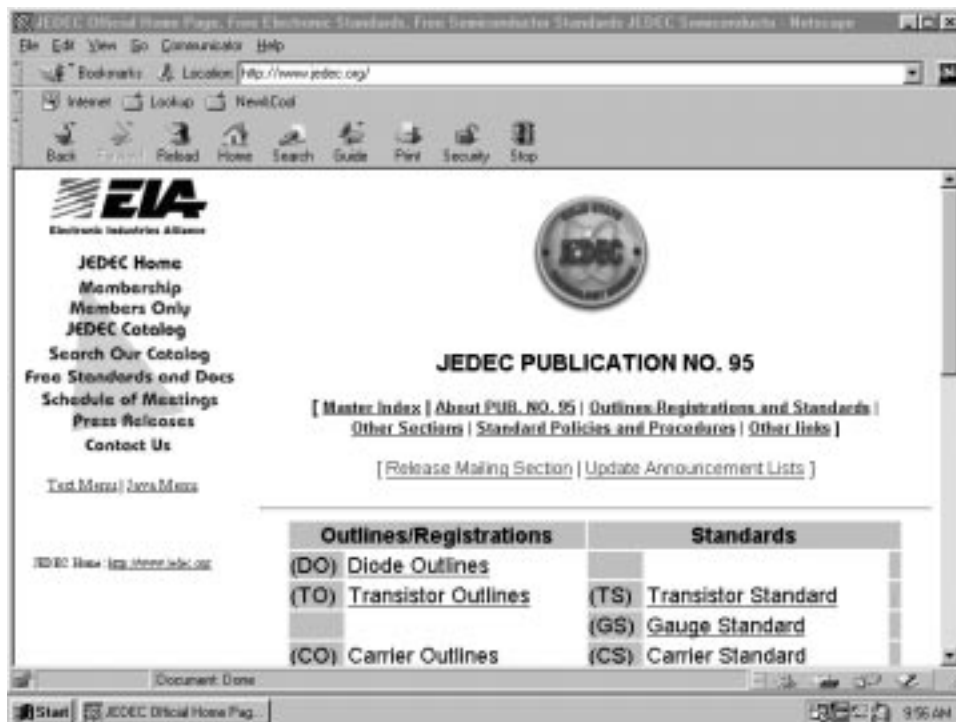

Figure 4. Publication 95 Web Page
The resulting screen (Figures 4 and 5) is the web page for Publication 95.
The JC-11 committee approves all additions or changes to Pub-95. Changes to Standards, or new Standards, also must have the JEDEC Board of Directors approval. Once approved, a change is forwarded to the JEDEC office in Arlington, Virginia, and the update is made to Pub-95. In 1997, Pub-95 was placed on the JEDEC web page (see Figures 4 and 5).
Any member company can approach the committee to register a package. As a result, there are many types of registered outlines (see Figures 4 and 5).
5. Figure 4 shows the introduction to *JEDEC Publication No. 95*.
Find the JEDEC home page by entering the web page at www.jedec.org or, from Step 2 above, follow Steps 3, 4, and 5. From the JEDEC Publication No. 95 screen (see Figures 4 and 5), the reader can access the Master Index, Registrations or Standards, Standard Policies and Procedures, or Design Guides.
Find package outline drawings in Pub-95 at web address <http://www.jedec.org/download/freestd/Pub-95/>, or by following the five steps in *How to Access Publication 95 on the Web*. Either method provides the same screen as shown in Figure 4. There are several options available from this screen.